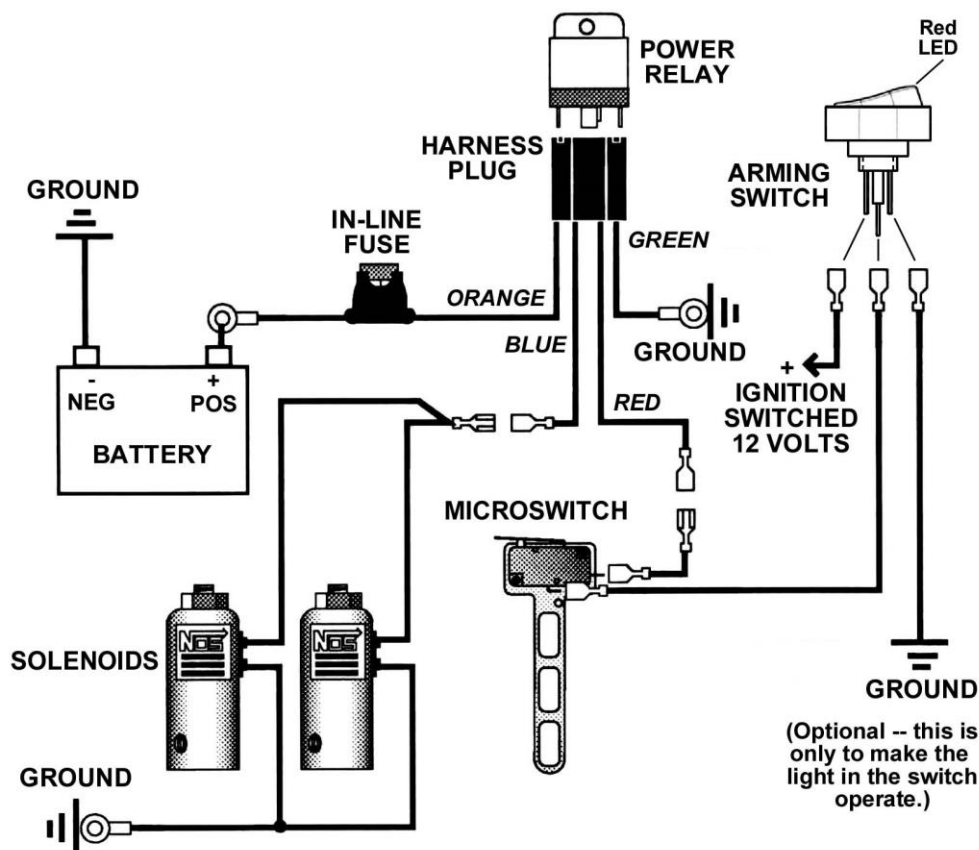

Figure 3 Electric Wiring Schematic
14. Push the throttle wide open while the engine is off. Each solenoid should make a clicking noise if it is cycling correctly. If no noise is heard, check all the wiring connections and the wiring schematic in Figure 3.